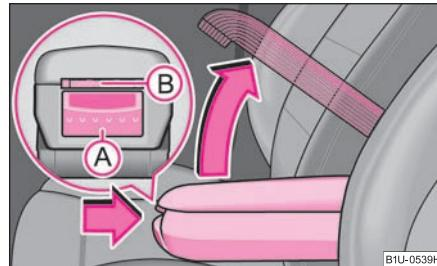

Fig. 90 Armrest: Storage compartment
- Press button **B** ⇒ fig. 90.